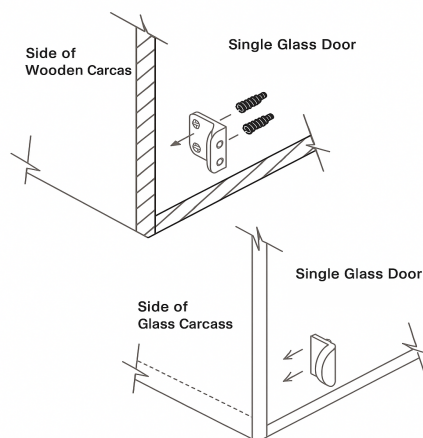

FIG 3
- Ensure the receiver is exactly parallel and flush with the carcass or door (see Fig. 3).